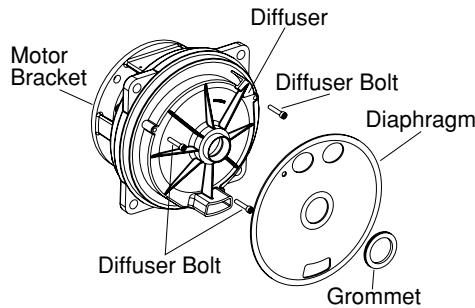

Figure 9
B. Pump Disassembly (Appendix I & Figure 9)
Reassemble unit by first pressing the ceramic seal into the seal plate. Use rubbing alcohol as a lubricant. Do not use an oil, petroleum jelly or grease as this will damage the sealing surfaces of the shaft seal during operation. Next, install the motor bracket onto the motor using the four bolts. Tighten the bolts in a diagonal pattern to ensure a proper fit. Place the shaft seal on the motor shaft and then install the impeller and eye-seal. The diffuser is positioned by three bolts that can only be installed when the diffuser is oriented properly (Figure 9). Position the diaphragm on the diffuser suction eye. (as shown in Figure 9). The grommet will slide over the diffuser eye on top of the diaphragm. Lift the motor assembly up into the pump case and attach it using the four bolts. When seating the pump case against the motor bracket, the diaphragm should be captured between them around the entire perimeter. This allows the diaphragm to serve as a water seal between the two cast iron parts. If the diaphragm is not positioned correctly the unit will leak once the case is filled with water. Tighten all bolts to 185 in-lbs in a diagonal pattern to ensure proper seating of all components.